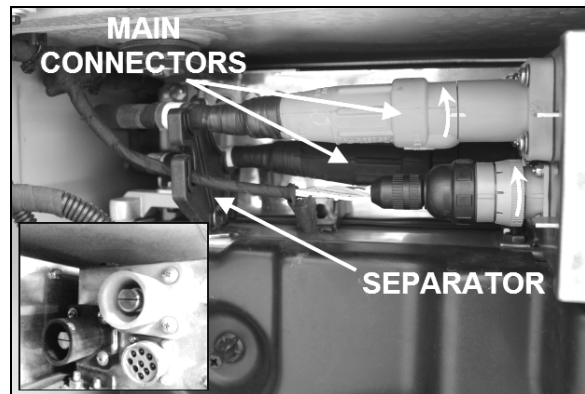

FIGURE 25: CIRCUIT BREAKER BOX CONNECTIONS
3. Disconnect the cooling fans circuit breaker box (Figure 25).